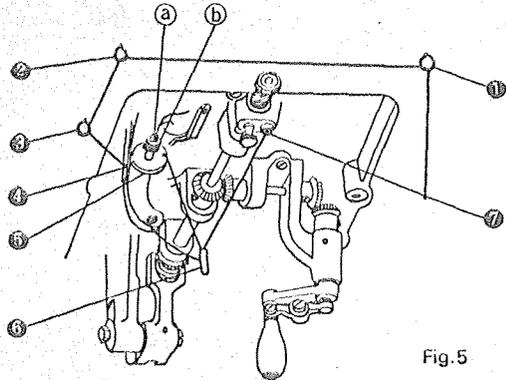

Fig. 5
- ⑧: Tension Complete
- ⑩: Tension Bracket
- ①: Tension Controller Spring
- ⑨: Presser Foot Lifter
- ⑫: Stitch Rotating Hand Lever Handle
- ⑬: Needle Plate Thumb Screw
- ⑭: End of Looper Shaft
- ⑮: Nipple
- ⑯: Nipple Holder
- ⑰: Nipple Carrier Thumb Screw
7. TO THREAD THE MACHINE (Figs. 5, 6 & 7)
1) For the thread (Figs. 5 & 6)
Three thread eyelets are furnished with the machine. These eyelets should be fastened to the underside of the table as shown at ①, ② and ③, Fig. 5. Eyelet ① should be located directly above the cone of thread.
11. TENSIONS (Fig. 5)
The tension on the thread is regulated by the thumb nut ④, Fig. 5 at the left of the tension discs. To increase the tension turn this nut over toward you. To decrease the tension turn this nut over from you. This tension should be only tight enough to prevent the skipping of stitch.